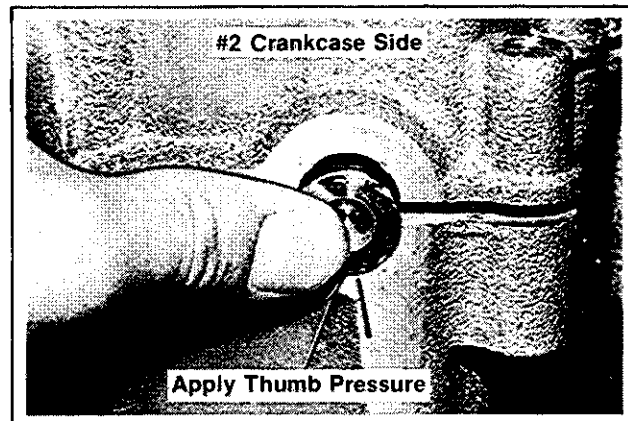

Figure 11-18. Installing #2 Crankcase Side.
- Place the #2 crankcase side on the #1 side. Apply thumb pressure on the plug as the sides are brought together. Maintain pressure on the plug as the crankcase fasteners are installed and tightened. This ensures the plug shoulder is bottomed tightly against the crankcase. Refer to Figure 11-18.